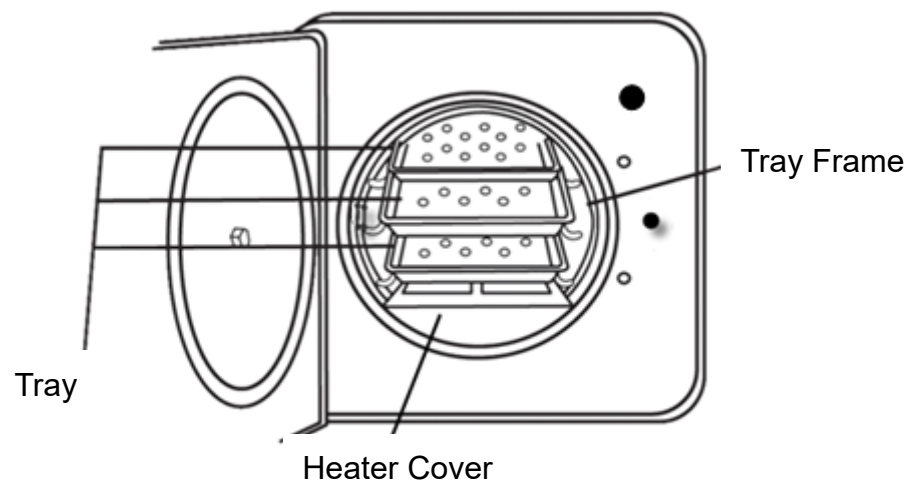

Figure 7
F. Install the tray as Figure 7. (optional accessory)